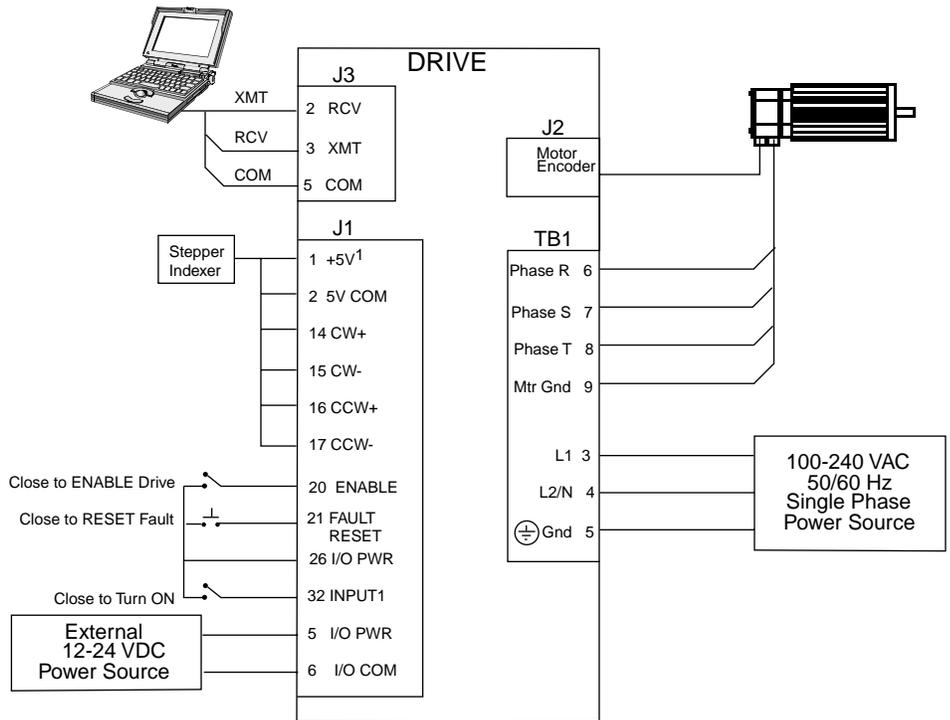

Figure 8.5 Position Follower (Step Up/Down Controller) Connection Diagram
The drive can be electronically geared or driven by Step Up and Step Down signals typically used to control stepper drives. Make the connections below to setup the drive as a position follower. Figure 8.5 depicts the minimum hardware necessary. Interfacing the drive to a controller requires similar output circuitry from the controller to J1. Instructions are provided to configure the drive with *Tol-O-Motion SSD* software.
Make the connections described below and shown in Figure 8.5.
4. Connect the Stepper Indexer to the drive as shown in Figure 8.5. The motor is controlled by the indexer commands.
These connections provide manual control for enabling or disabling the drive and resetting faults. Figure 8.5 shows the jumper, including normally open toggle switches.